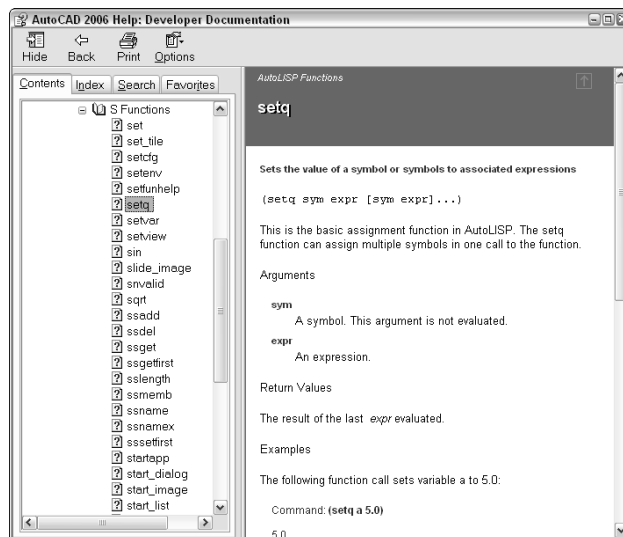

Figure 34-5: When you select any AutoLISP function in your code and choose Help, Visual LISP opens the help page for that function.
-  To get help on any AutoLISP function in your code, select the function (either in the edit window or in the Console window) and choose Help on the Visual LISP Tools toolbar. Figure 34-5 shows the screen that appears when you select `setq` and choose Help.